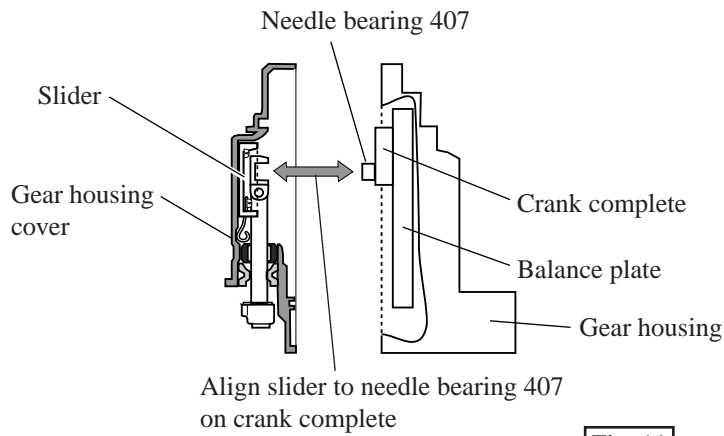
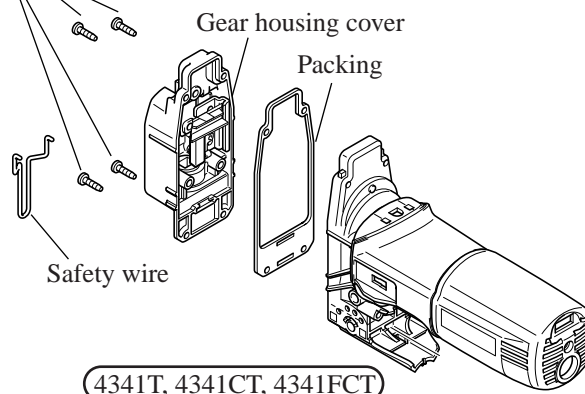

Fig. 11
Fig. 11A
7. Aligning slider to needle bearing 407 on crank complete, assemble gear housing cover section to gear housing as illustrated in Fig. 11. Do not forget to assemble packing between gear housing cover and gear housing. See Fig. 11A.